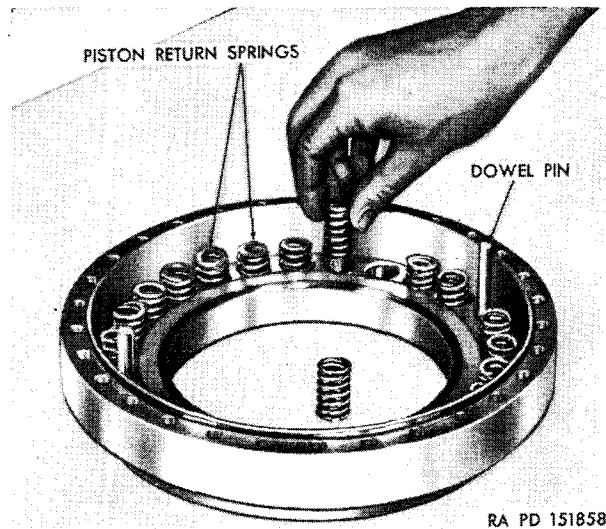

Figure 119. Removing or installing steering-clutch-piston return springs.
Lift off the left-steering-clutch piston (fig. 117). Remove the steering-clutch-piston lock ring from beneath the right-steering-clutch piston assembly. Remove the 24 steering-clutch-piston return springs from the spring guide pins on the clutch inner hub. Using a soft hammer, tap the steering-clutch inner hub assembly to loosen it and lift it out of the right-steering-clutch piston (fig. 118). Be careful with the two lip-type seals and one "O" ring gasket. Remove the seals, lube valve assemblies, and spring guides only if they are defective. Remove the 24 steering-clutch-piston return springs from the right steering clutch piston (fig. 119).
- (1) Refer to paragraph 94 for serviceability measurements and wear limits.
- (2) If the seals, lube valve assemblies, and/or spring guides in the inner hub are defective, they must be removed. To remove the lube valves, use pliers to remove the dowel pins and two screwdrivers (or a suitable knocker tool) to remove the valve seats from the inner hub. Two screwdrivers can be used to take the spring guides apart. Replace all defective parts.
a. Install 24 steering-clutch-piston return springs in the right piston (fig. 119). Make sure one "O" ring gasket, eight lube valve assemblies, and two lip-type seals are installed on the clutch-inner hub. With two pieces of 2 x 4 wood, block up the right-steering-clutch piston with the spring side up. Install the clutch-inner hub, with the chamfered end of the bore up, in the right-steering-clutch piston (fig. 118). Tap gently into place with a soft hammer. Install the 24 steering-clutch-piston return springs. Place them around the spring guides on the clutch-inner hub assembly.